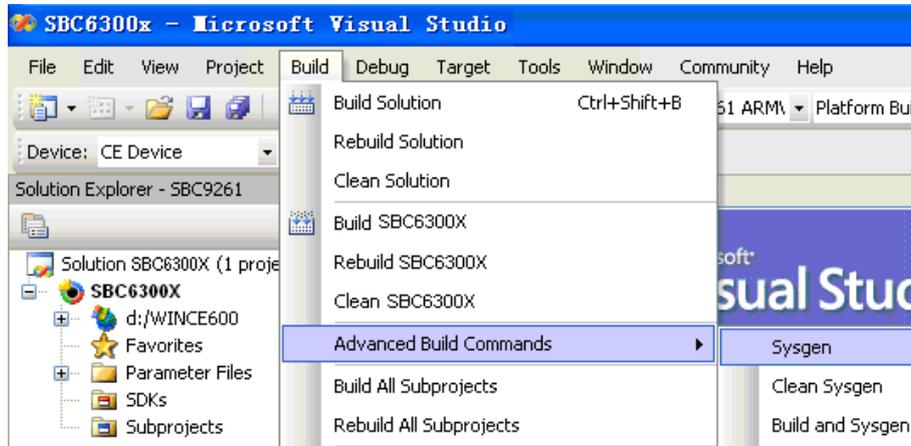

Figure 6.16
17. As shown in Figure 6.16, click Build->Advanced Build Commands->Sysgen of VS2005 to start compiling: